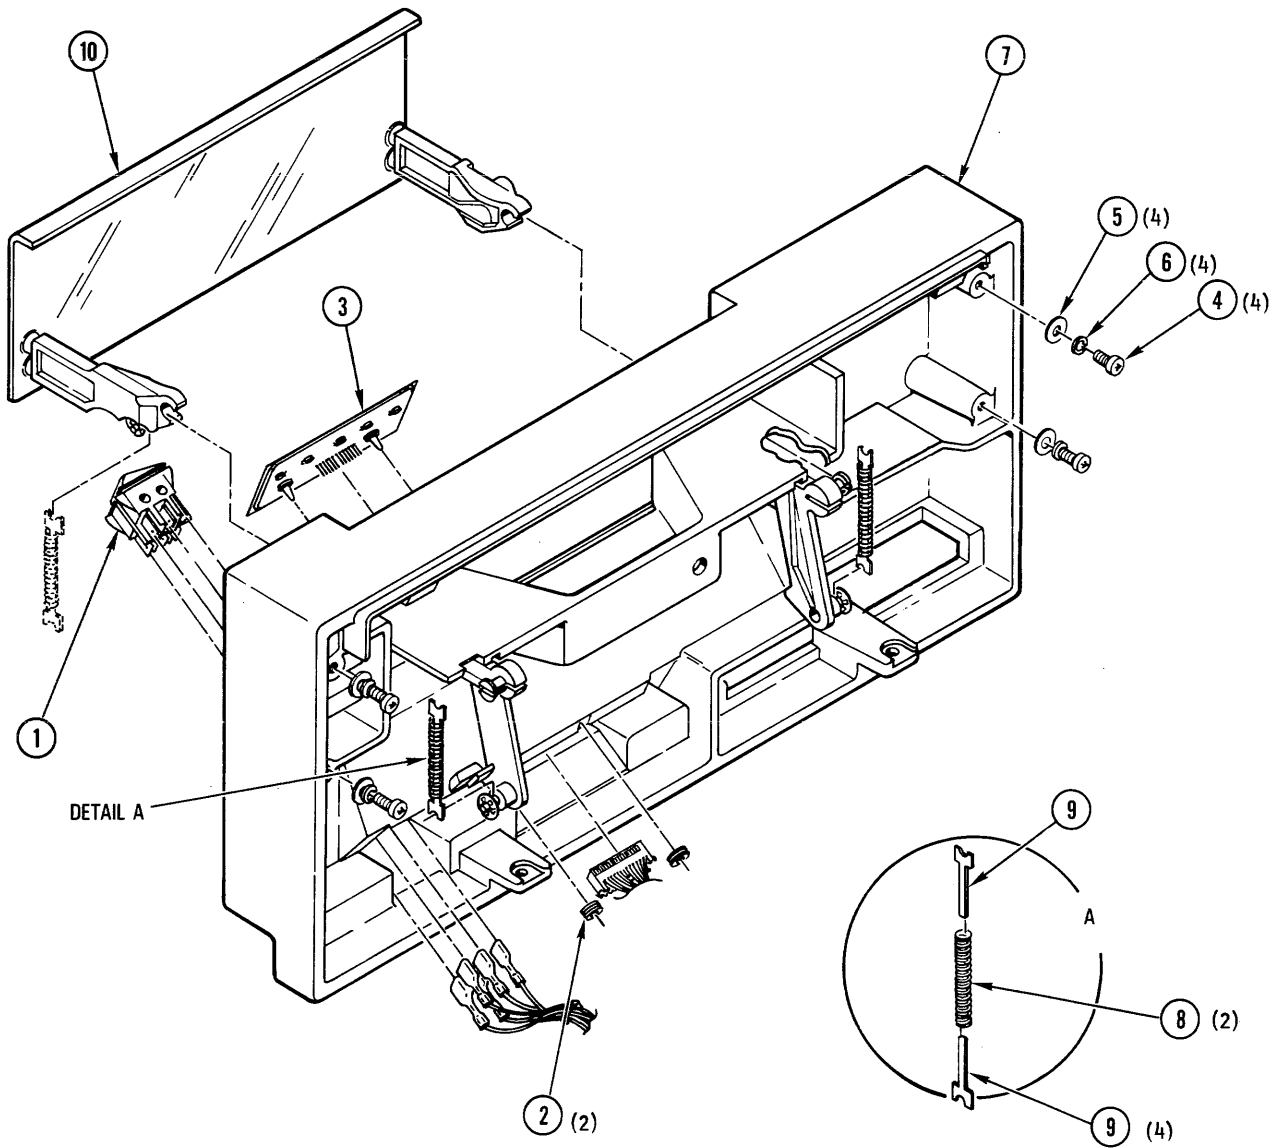

Figure 4-7. Front Panel Assembly
4-19. **Power Switch Replacement.** To replace the power switch (I, Figure 4-7), proceed as follows:
4-20. **Touch Switch Replacement.** To replace the touch switch (3, Figure 4-7), proceed as follows:
4-21. **Front Panel Subassembly Replacement.** To replace the front-panel subassembly (7, Figure 4-7), proceed as follows:
4-22. Removal And Replacement of Door Assembly. To replace the door assembly (10, Figure 4-7), proceed as follows:
- b. Remove two springs (8) and four guides (9), and push door out of front panel, using finger pressure on back of door from under side of panel.
- c. Install door assembly in front panel subassembly by snapping arms onto plastic studs of front panel assembly, as indicated in Figure 4-7.
- d. Assemble guides (9) with springs (8), with flat surfaces of guides in contact with each other.